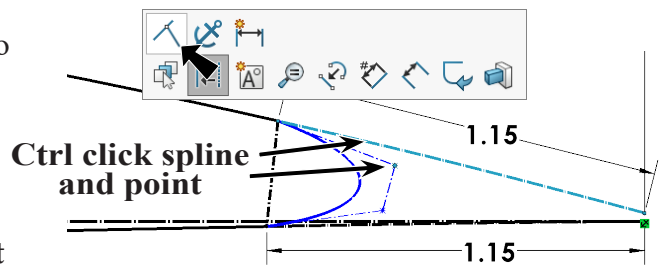

Fig. 37
Step 25. **Ctrl click top construction geometry of trim and top control vertex point** to select both. Release Ctrl key and click **Make Coincident**  on the context toolbar, **Fig. 37**.